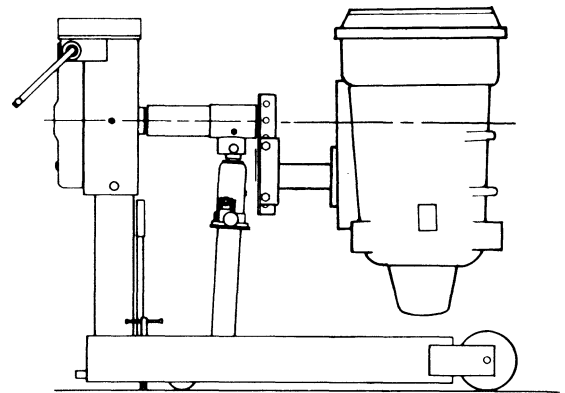

FIGURE 1
2. Find the transmission's center of balance (or greatest concentration of weight). See Figure 1.